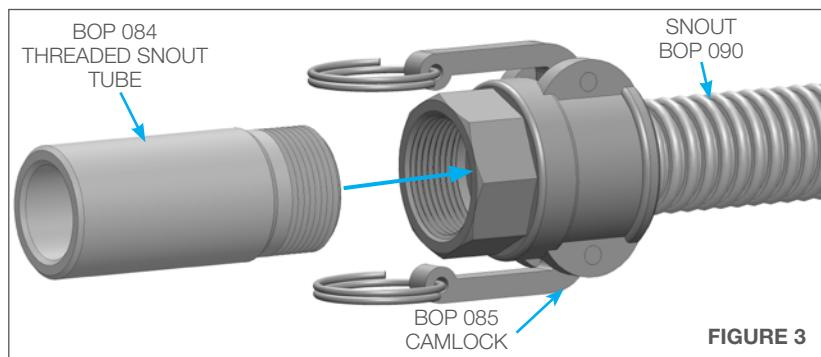

FIGURE 3
3. With the Rollers open, slip the hose through the Drive Block, Rollers and Guide Tube. Be sure to pull enough extension to feed through the Snout. (**Figure 3**)
3. Thread the BOP 084 Threaded Snout Tube into the BOP 085 Camlock at the end of the BOP 090 Snout. (**Figure 3**)
- Release the Adjustable Handle on the BOP 070 Hinge Clamp to access the 4 socket head cap screws. Locate the side of the BOP 030 Collet Block Assembly with 4 threaded holes. Orient the Hinge Clamp so that the hinge is on the right. Fasten the Hinge Clamp Assembly to the Collet Block Assembly using the 4 supplied socket head cap screws. (**Figure 3**)